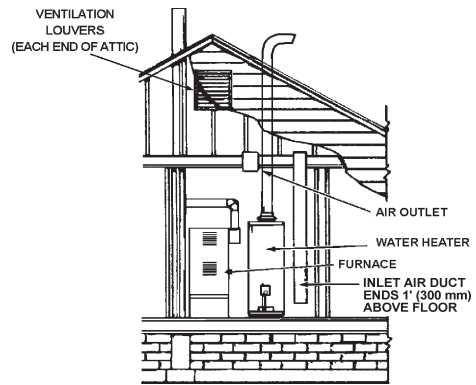

FIGURE 8.
2. When communicating with the outdoors through vertical ducts, each opening should have a minimum free area of 1 square inch per 4,000 Btu per hour (5.5 cm²/kW) of total input rating of all equipment in the enclosure, see Figure 8.